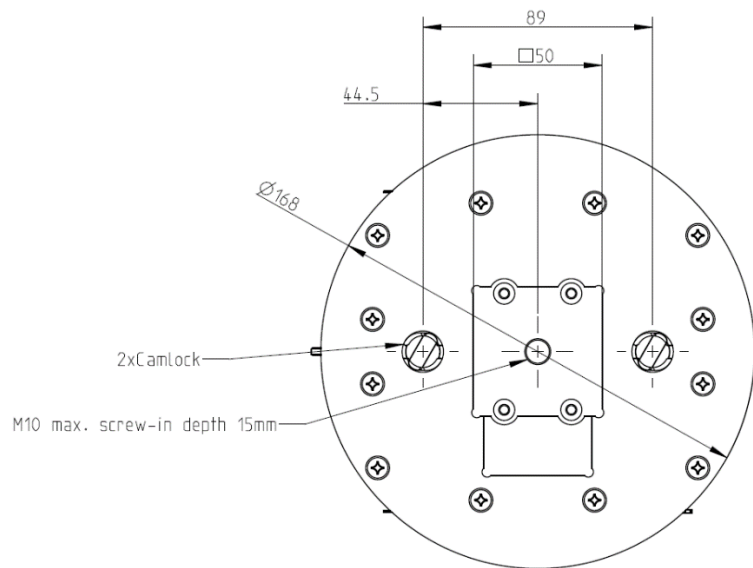

Figure 3. Mounting points in baseplate
See Figure 3. The fixture's baseplate has:
1. See Figure 3. Two camlock quarter-turn fastener points are provided in the baseplate. Line up the camlock pins in the supplied X5 Tripod floor stand with the camlock fastener points in the baseplate, then insert the pins fully and turn their handles 90° clockwise to lock.
2. See Figure 3. Fasten the bolt through the half-coupler clamp and into the M10 threaded hole in the fixture's baseplate so that the clamp is held securely.
2. See Figure 3. Line up the two camlock quarter-turn pins in the omega bracket with the camlock fastener points in the base of the fixture and turn both locking levers a full 90° clockwise to lock the brackets to the fixture.